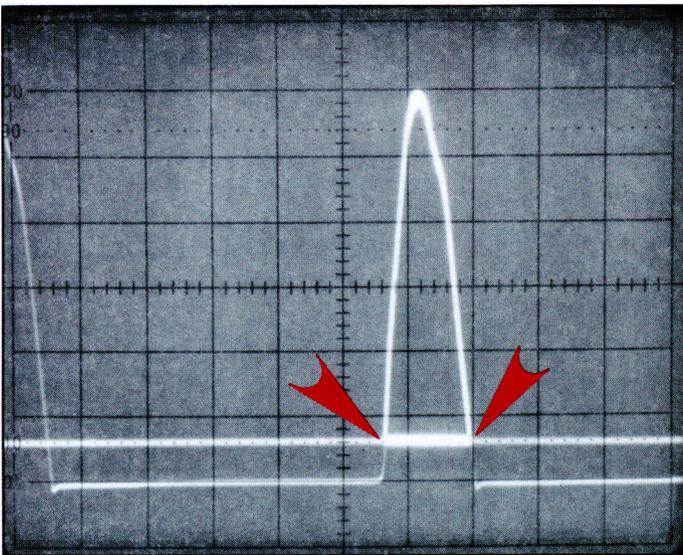

Fig. 4: The time duration measurement of the retrace pulse should be made from the 10% to 10% levels.
5. Adjust the DELTA BEGIN knob so the left-side of the intensified trace aligns with the left-side intersection of the CHANNEL A and CHANNEL B traces (Figure 4).